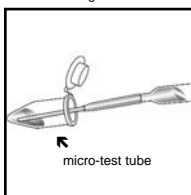

Figure 3
3. Fill the micro-test tube approximately half-way with the sample to be tested (fig. 3).